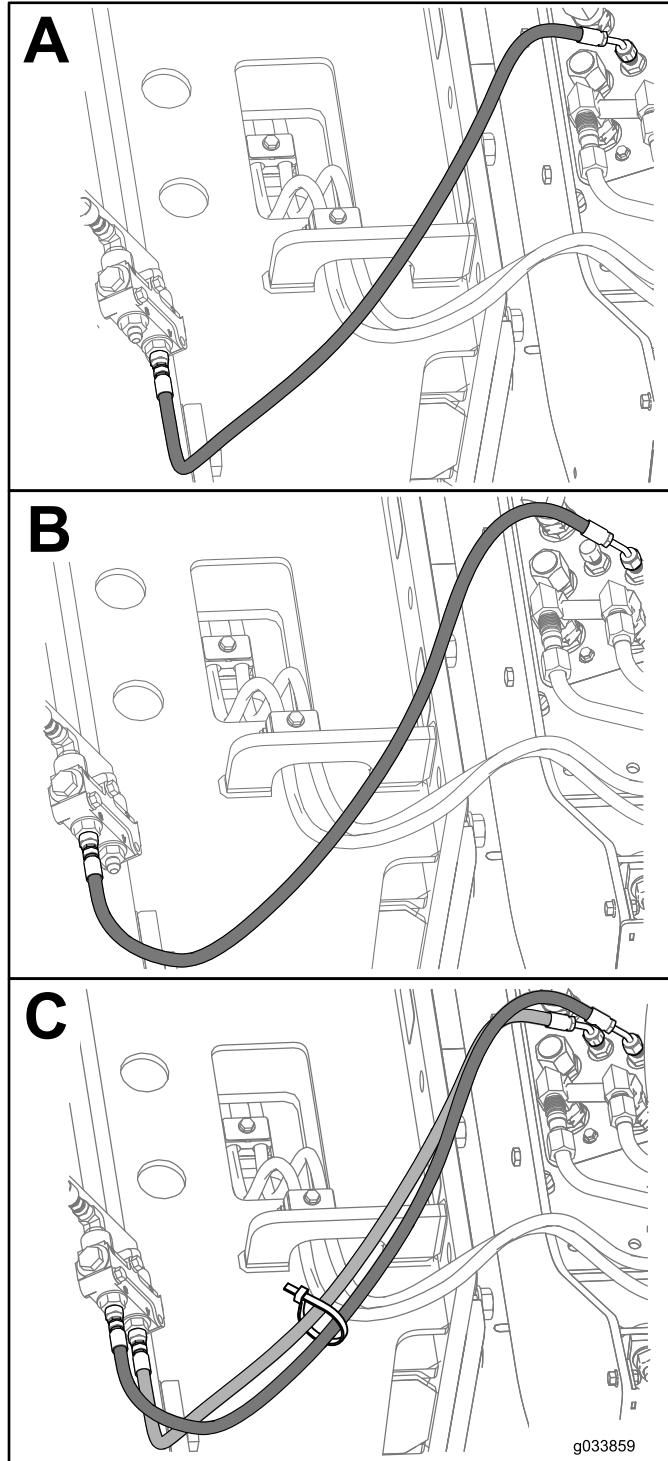

Figure 7
1. Install the trencher hydraulic hoses as shown in Figure 7.